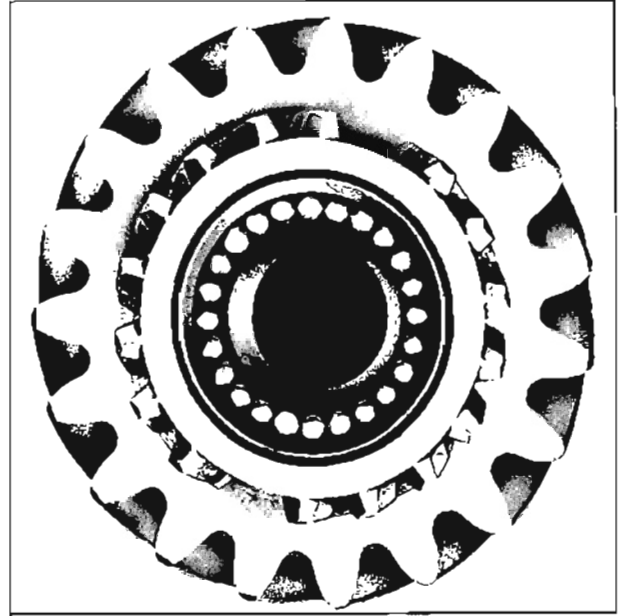

Fig. 7-122 Mainshaft Pilot Roller Bearings in Clutch Gear
5. Place some cup grease in the mainshaft pilot hole in the clutch gear and install the roller bearings. (Fig. 7-122) Install the 14 group and small ID spacer, then the large ID spacer and the 24 group.